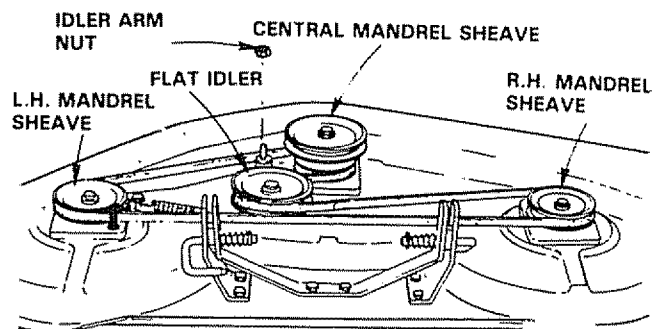

FIGURE 45
- f. Check deck idler arm assembly and flat idler to see that they rotate freely (Fig. 45).
- g. Be sure spring is hooked in deck idler arm assembly and on bolt in mower housing (Fig. 45).
- h. Install new belt in groove of L.H. mandrel sheave, lower groove of center mandrel sheave and around flat idler as shown (Fig. 45).
- i. From a position at discharge end of mower, roll belt into groove of R.H. mandrel sheave (Fig. 45).